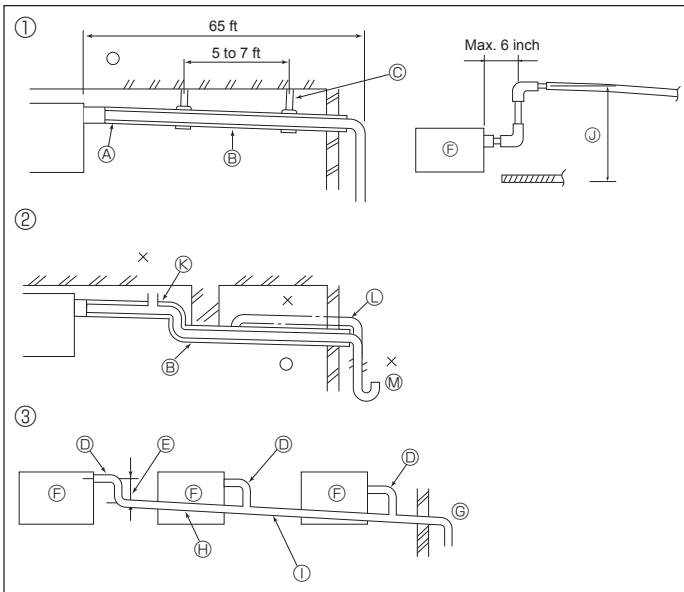

Fig. 4-1
4.1. Drainage piping work (Fig. 4-1)